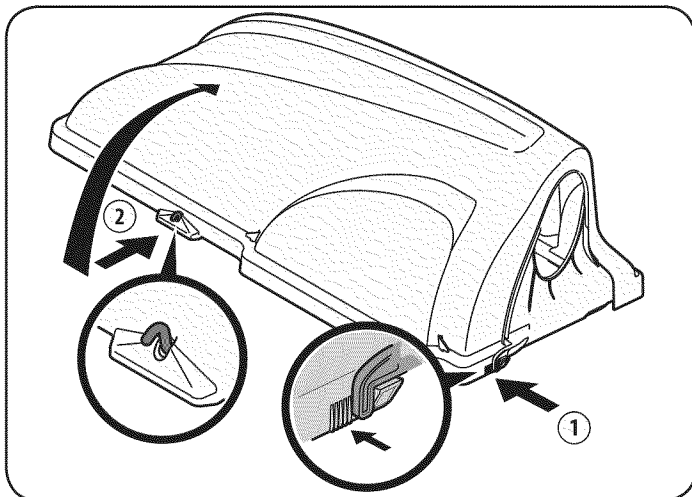

Figure 15
7. Open grass catcher cover by pushing in on the rear, right-side tab with your right-hand, as seen in 1 of Fig. 15, and lifting with your left-hand in the rear center, 2.